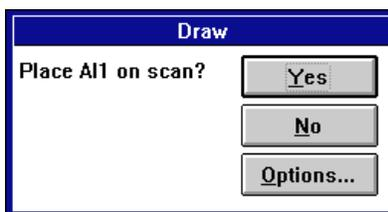

Figure 4-7 Place On Scan Prompt
9. The Analog Input (AI) dialog box appears again. Select the OK button and the system displays the prompt shown in Figure 4-7 asking if you want to place the block AI1 on scan. Select Yes to place this block on scan.